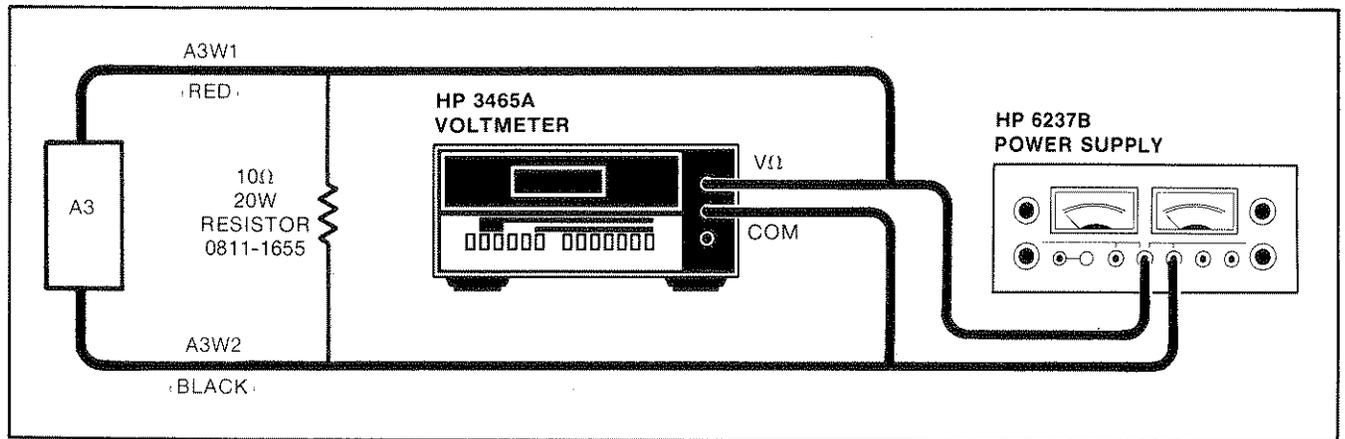

Figure 5-10. Fast Charge Threshold Adjustment Setup
a. Connect the HP 5384A/HP 5385A as shown in Figure 5-10.